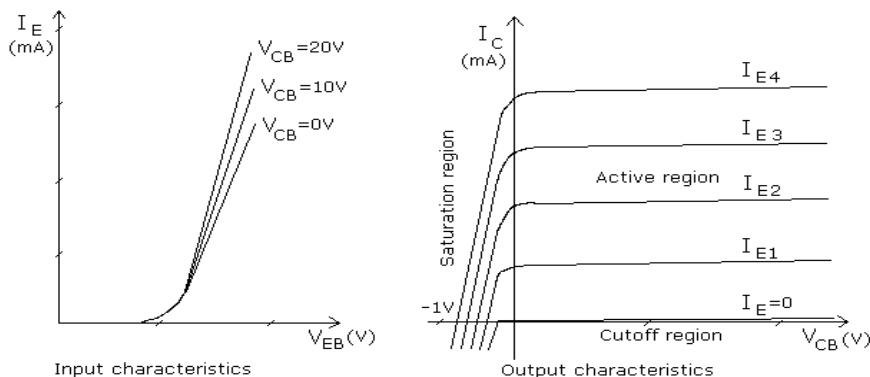

Figure 2.1.6: Input and Output Characteristics of Common Base Configuration
Input Characteristics of Common Base configuration is a plot of input current  $I_E$  versus input voltage  $V_{EB}$ , for various constant values of output voltage  $V_{CB}$ . As  $V_{EB}$  is increased,  $I_E$  increases. The characteristics curve is similar to diode characteristics. If  $V_{CB}$  is increased, then  $I_E$  shoots up early. This is due to the increase in electric field aiding the flow of electrons from emitter. The variation is shown in Figure 2.1.6 for various values of  $V_{CB}$ .
- a. **Active region:** This is the region to the right of y-axis above  $I_E=0$  curve (Figure 2.1.6), where the curves are linear.  $I_E$  is positive non zero (i.e., E-B diode is forward biased) and  $V_{CB}$  is positive (i.e., C-B diode is reverse biased). When  $V_{CB}$  is increased,  $I_C$  increases slightly. This is because, when  $V_{CB}$  is increased, depletion region width at C-B junction increases, effectively base width decreases and hence  $I_B$  decreases. Due to this collector current  $I_C$  increases. This effect is known as Early effect (also called base width modulation). If  $I_E$  is increased to higher constant value,  $I_C$  also increases. When  $I_E=0$ ,  $I_C=I_{CBO}$  (reverse saturation collector current in common base with emitter open).  $I_{CBO}$  doubles for every ten degree rise in temperature.
- b. **Saturation region:** This is the region to the left of y-axis, above  $I_E=0$  curve (Figure 2.1.6). In this  $I_E$  is positive nonzero (E-B diode forward biased) and  $V_{CB}$  is negative (C-B diode is forward biased).  $I_C$  decreases exponentially in this region.
- c. **Cut-off region:** This is the region below  $I_E=0$  curve (Figure 2.1.6). In this emitter current  $I_E$  is less than zero (E-B diode is reverse biased) and collector to base voltage  $V_{CB}$  is positive (C-B diode is reverse biased). Transistor is said to be in OFF state since  $I_C$  is zero.